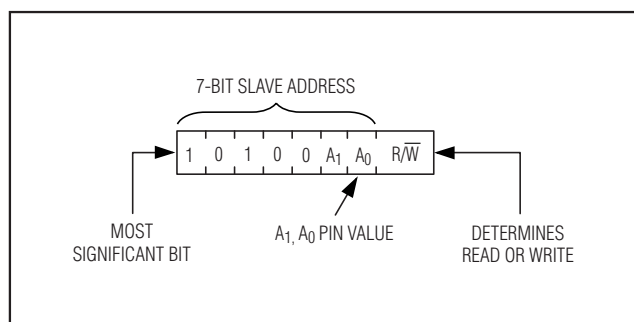

Figure 10. DS3881's Slave Address Byte
**Slave Address Byte:** Each slave on the I2C bus responds to a slave addressing byte sent immediately following a start condition. The slave address byte (Figure 10) contains the slave address in the most significant seven bits and the R/W bit in the least significant bit. The DS3881's slave address is 10100A1A00 (binary), where A0 and A1 are the values of the address pins (A0 and A1). The address pin allows the device to respond to one of four possible slave addresses. By writing the correct slave address with R/W = 0, the master indicates it will write data to the slave. If R/W = 1, the master will read data from the slave. If an incorrect slave address is written, the DS3881 will assume the master is communicating with another I2C device and ignore the communications until the next start condition is sent.